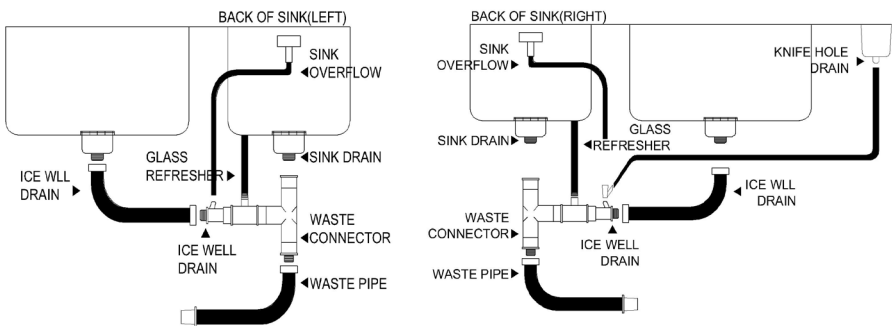

Fig. 1
4. Next, connect the sink overflow pipe to the solid cross pipe as presented in Figure 1. Continue by attaching the other end of the sink overflow pipe to the back of the sink as shown in Figure 2.
5. Connect the two ice well pipes to the solid cross pipe, one onto each end of the cross as shown in Figure 1. Continue by connecting the other ends to the ice well drains as shown.
6. To install the glass refresher, connect the metal pipe onto the solid cross pipe as shown in Figure 1. Next, connect the other end of the metal pipe onto the glass refresher drain by the sink, as shown in Figure 2.
7. The last pipe to connect is the waste pipe. Connect it to the solid cross pipe as shown in Figure 1.